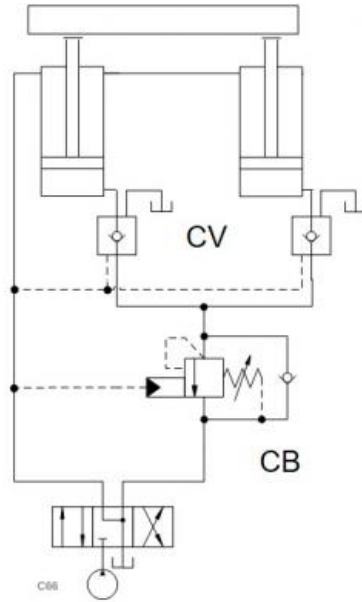

Fig.1
- In **Fig.1** vented P.O. check valves are required since back pressure will be present downstream.